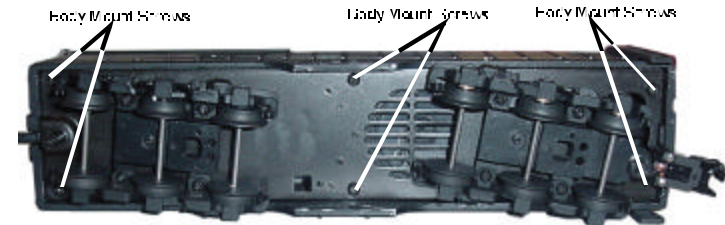

Figure 9. Screws to remove the tender shell
1. Remove the body from the chassis by removing the 6 screws shown in Fig 9 on page 15.